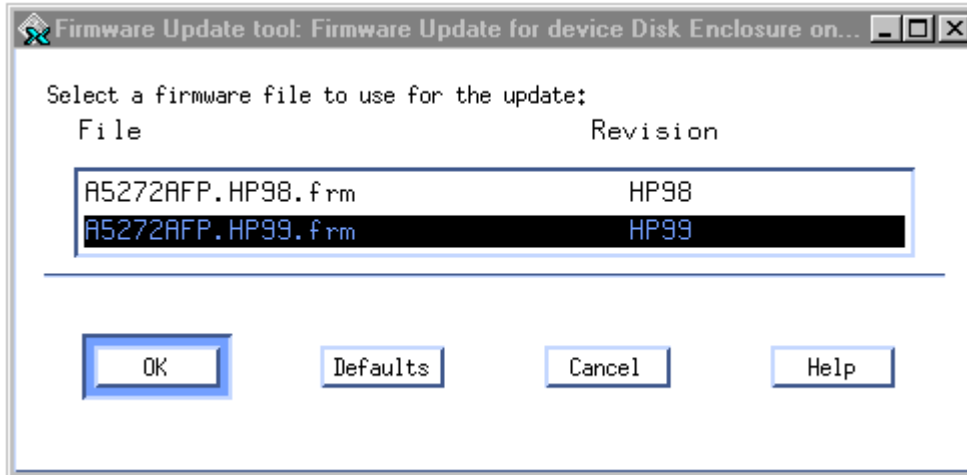

Figure 34 Firmware File Selection Window
6. Select **Firmware Update > Run** from the Tools menu. A tool window opens, displaying the current firmware version and instructions for updating. A second window (Figure 34) lists the available firmware files in the `var/tmp` directory.